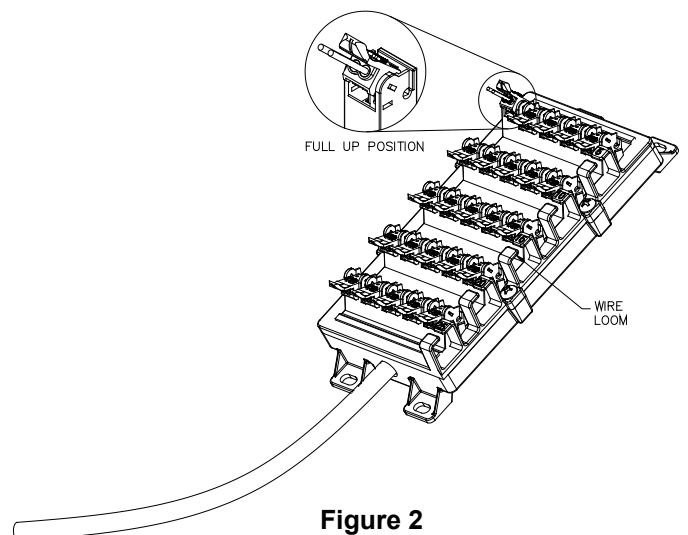

Figure 2
3. Lift the rocker to the full up position. DO NOT strip wires. Hold the wire pair to be terminated between thumb and index finger. Insert wires into wire guides simultaneously until they bottom-out. While holding wires in position, terminate rocker by lowering to the full DOWN position. Figure 2.
5. To keep wire pairs organized, route them through the molded wire looms as shown in Figure 2.